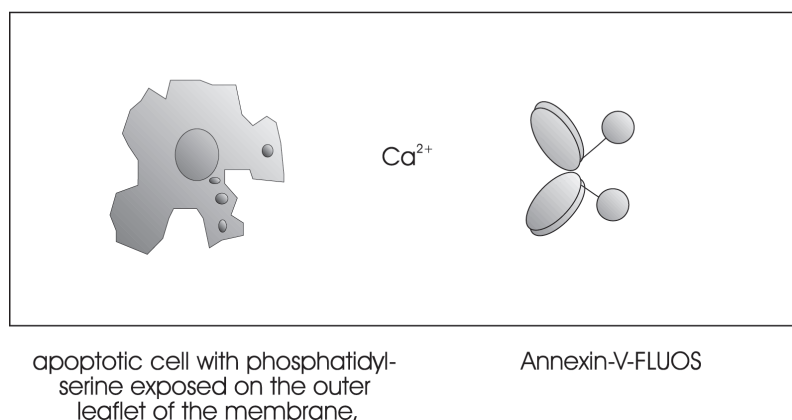

Fig. 2: Test principle
The analysis of phosphatidylserine on the outer leaflet of apoptotic cell membranes is performed by using Annexin-V-FLUOS and propidium iodide (PI) for differentiation from necrotic cells or labeling with a cell surface marker for cell characterization (Fig. 2). The following steps present an overview:
- ① Washing the cells in PBS.
- ② Incubation of cells with Annexin-V-FLUOS in a HEPES buffer containing PI or labeling reagent for cell surfaces, such as a CD marker.
- ③ Analysis of the samples under a fluorescence microscope or on a flow cytometer.